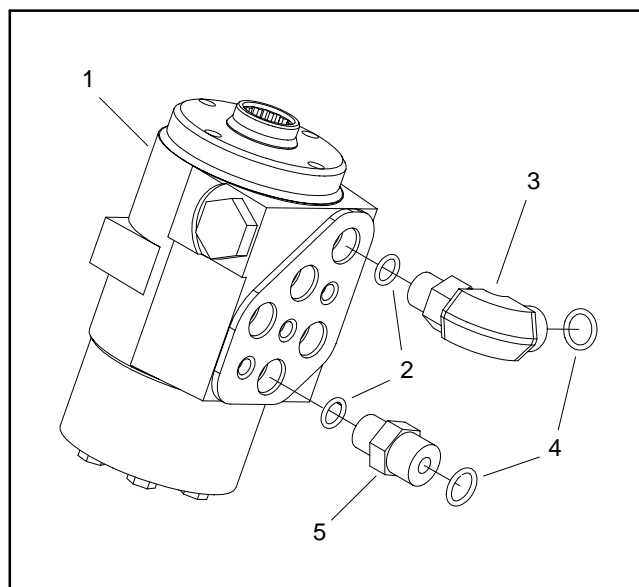

Figure 74
6. If hydraulic fittings are to be removed from steering control valve, mark fitting orientation to allow correct assembly (Fig. 74). Remove fittings from control valve and discard O-rings.
1. If fittings were removed from steering control valve, lubricate and place new O-rings onto fittings. Install fittings into port openings using marks made during the removal process to properly orientate fittings (Fig. 74). Tighten fittings (see Hydraulic Fitting Installation in the General Information section of this chapter).